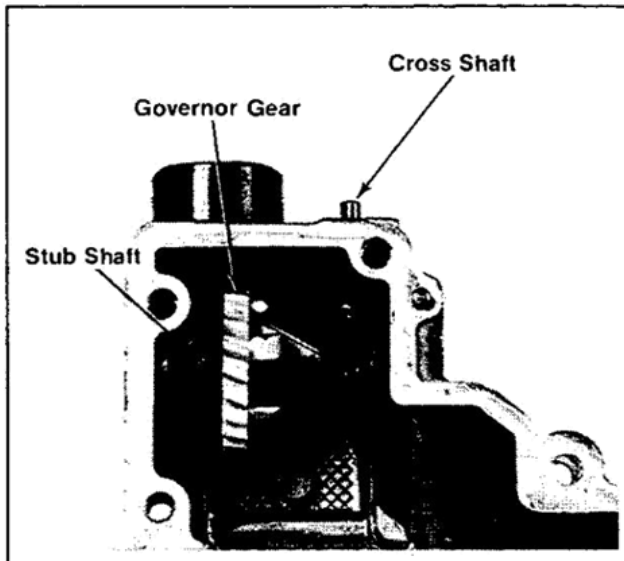

Figure 11-7. Installing Governor Gear.
2. Install the governor gear to stub shaft. Refer to Figure 11-7.